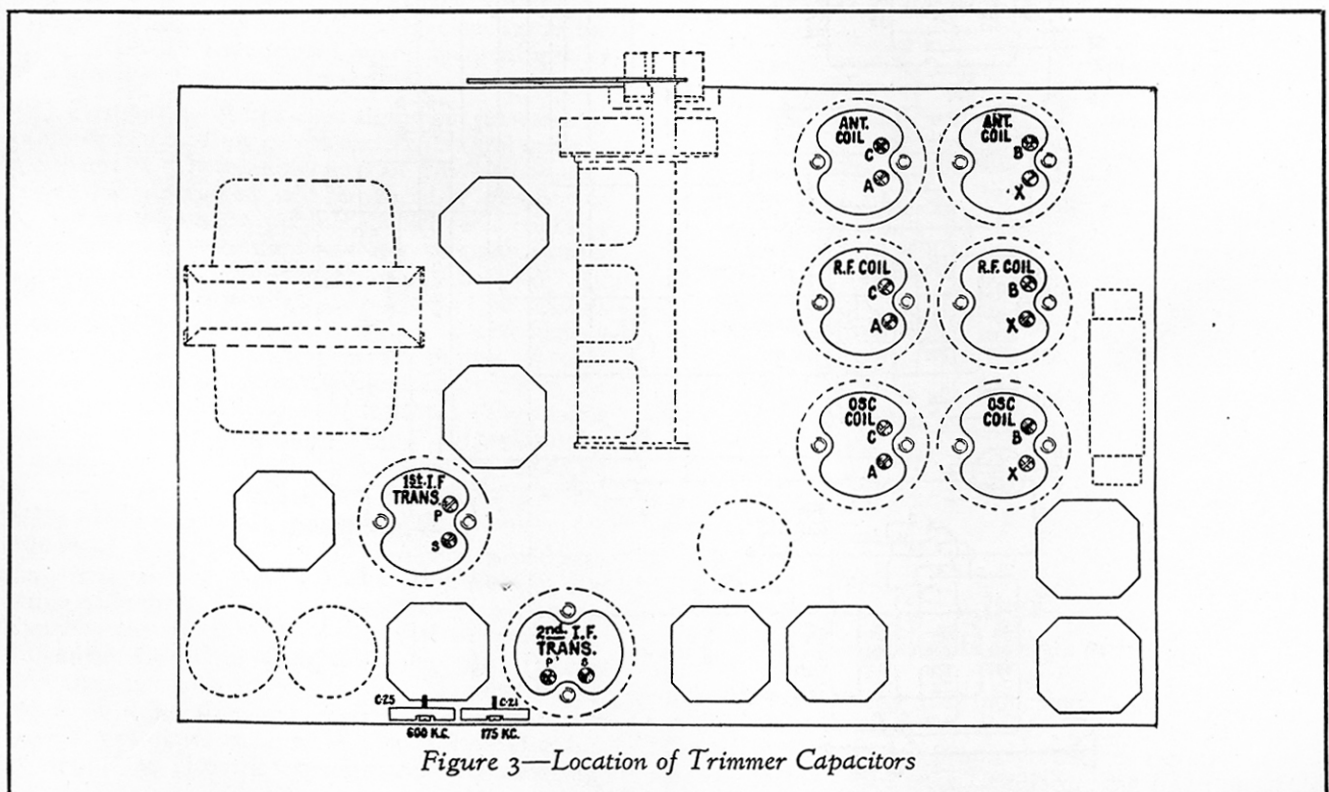

Figure 3—Location of Trimmer Capacitors
(3) I. F. Tuning Capacitor Adjustments. In this receiver there is a single i-f stage, including two coupling transformers. Trimmer condensers are used across both the primary windings and secondary windings, making a total of four adjustments. Each trimmer is designed for aligning its coil to 460 KC., the established i-f for this receiver. Adjustment of the i-f circuits should be performed in the following manner:
- (c) Adjust each i-f trimmer, shown in Figure 3, with an Alignment Tool until maximum receiver output is obtained.
(4) R-F, Oscillator and First Detector Tuned Circuit Alignment. Whenever the i-f line-up is corrected, it will be necessary to re-align r-f circuits preceding the first detector tube, as the correct operation of the receiver depends on the interlocking of the two.
The trimmer locations for each band are shown by Figure 3. They should be adjusted in the following manner: